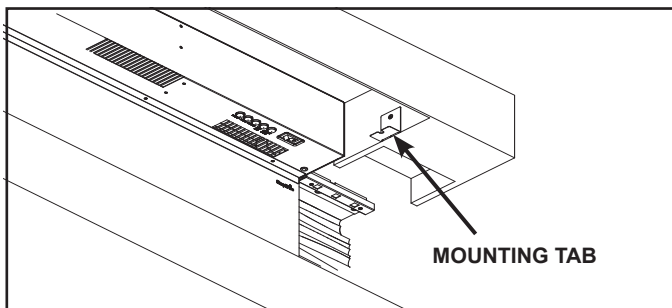

Figure 8
4. Before installing the top mantel, bend the mounting tabs slightly into a more open position to allow for clearance while installing the mantel. See Figure 8.